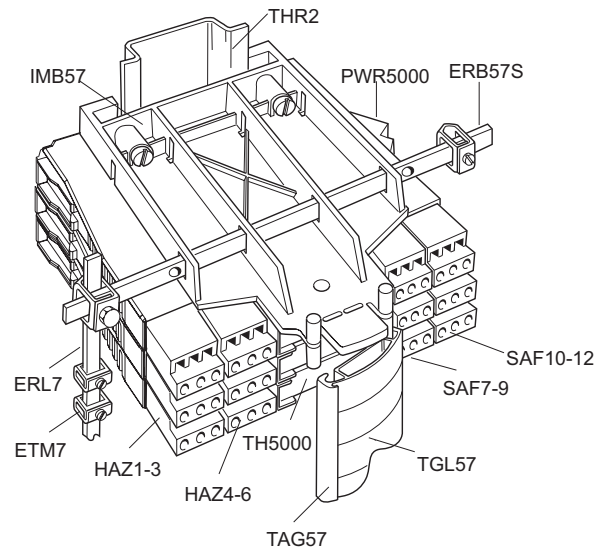

Figure 4.4: Mounting details
*Where the earth rail is required to be positioned at a lower height and to allow access to the IMB57 mounting screws, the straight earth-rail bracket ERB57S can be inserted in the lower slot, but only after insulating mounting blocks IMB57 are clamped to the DIN rail. This may not be possible if, for example, trunking is fitted. In this case, fit offset earth-rail bracket ERB570 (see figure 4.4 & 4.10) in the upper slot: the mounting blocks can then be fitted in a restricted space with this bracket already fitted.*